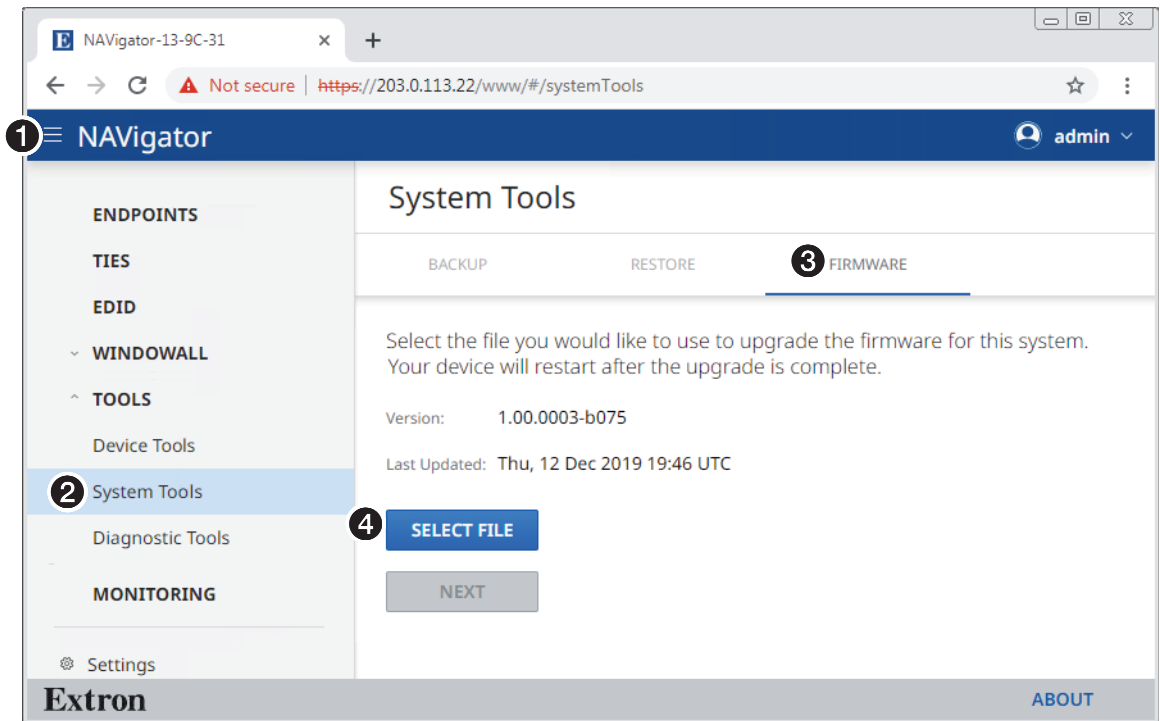
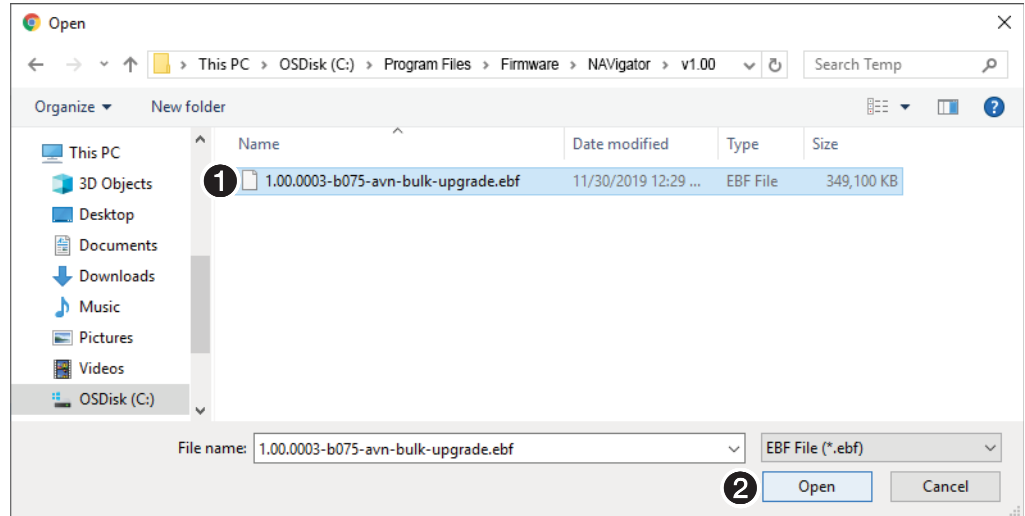

Figure 88. System Firmware Upload Page
Figure 89. Open Dialog Box
1. Access the HTML embedded HTML pages (see Opening the Embedded HTML Pages on page 10). The HTML page opens (see figure 88).
2. If necessary, click the **Menu** icon (see figure 88, ❶).
3. If necessary, click **Tools > System Tools** (❷).
4. Click **Firmware** (❸).
- Click **Select File** (see figure 88, ④ on page 83). An **Open** dialog box opens (see figure 89).
- Navigate to the folder where you saved the firmware or software file (typically, the **Downloads** folder, see figure 89, ①). Select the file.